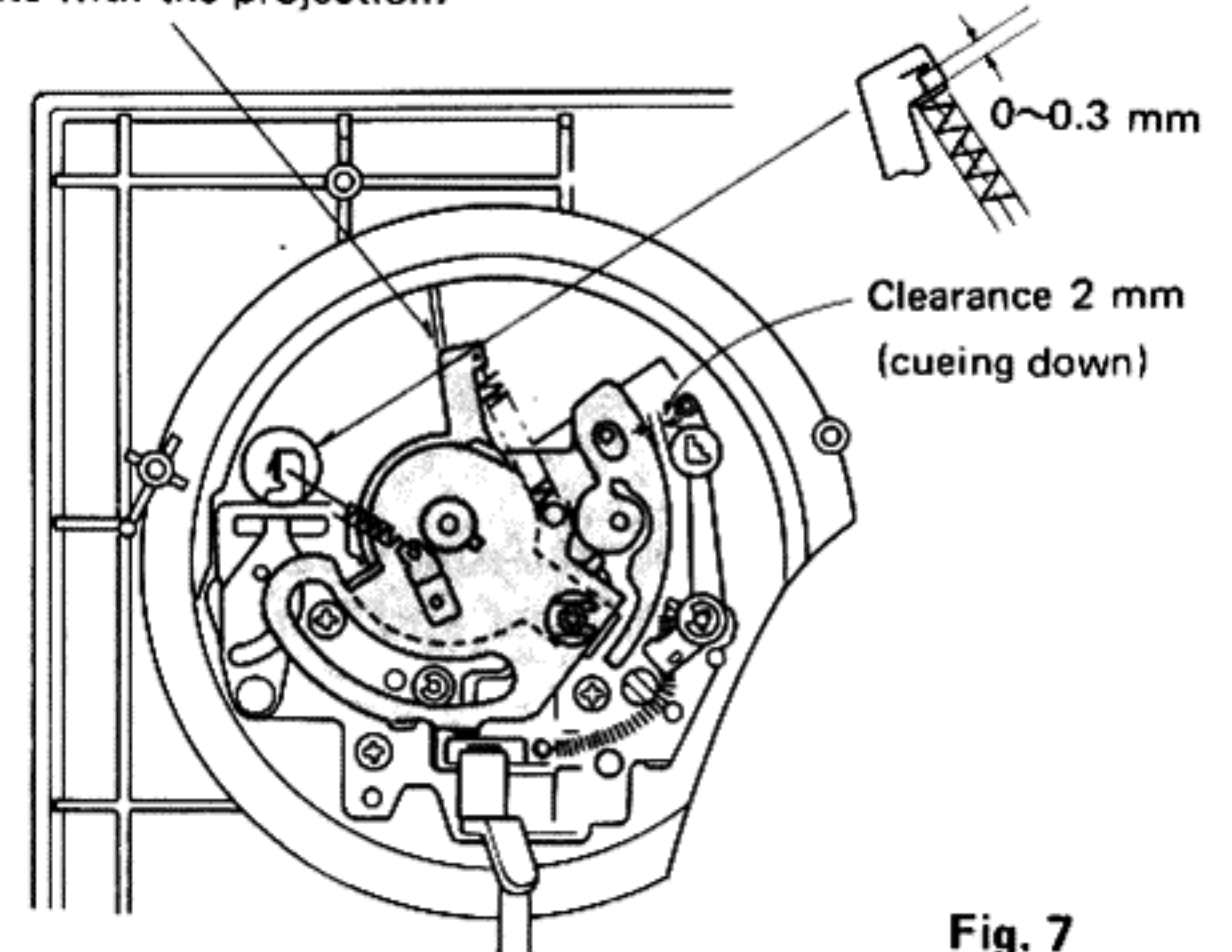

Fig. 7
3. When fitting the PU fixing plate, match the PU fixing plate with the projection of the cabinet and tighten the screw 22. (Fig. 7)
4. After fitting the canceller spring, set the anti-skating control knob to zero and shift the tonearm to the innermost periphery. Then make sure that the clearance between the canceller spring and canceller operation plate is 0~0.3 mm. (Fig. 7)